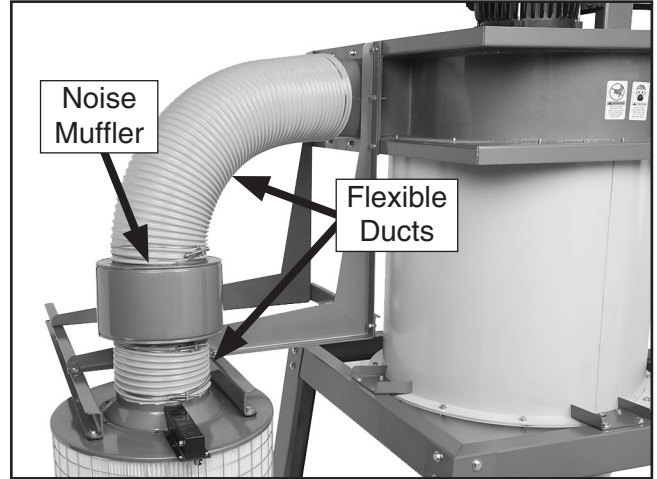

Figure 29. Ducting and noise muffler connected between blower housing and filter canister.
- Assemble the 8" x 31 $\frac{1}{2}$ " flexible ducts, the noise mufflers, and the 8" x 4 $\frac{3}{4}$ " flexible ducts with the 8" duct clamps (see **Figure 29**).